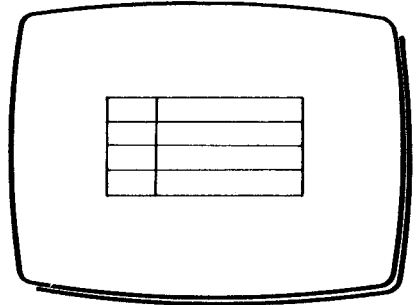

Fig 2
- 4 Press **T** to confirm the selected unit. The unit is displayed at its original size and rotation (Fig 2). All other Work Page entries have been erased, hence the need to file the original composite drawing.